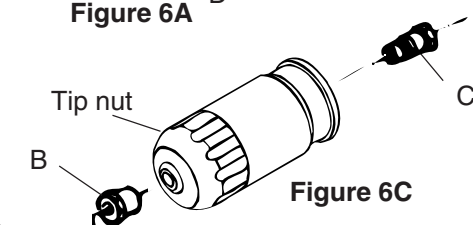

Figure 6C
- Screw out spray tip (B) using the tip spanner and remove diffuser (C) fig 6C.